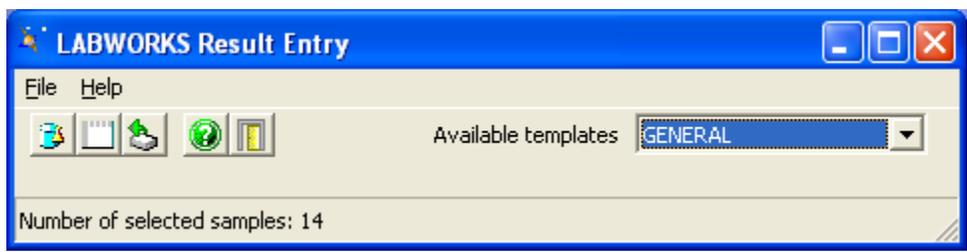

Figure 30
- A3.10 When all data have been entered, save the file to the LIMS system. For the Day 60 reading, print out the results after all data entry. The LABWORKS Result Entry screen will show after the samples are saved. If you want to view the samples again click on the tab that says **Enter results for selected samples**. See Figure 30.